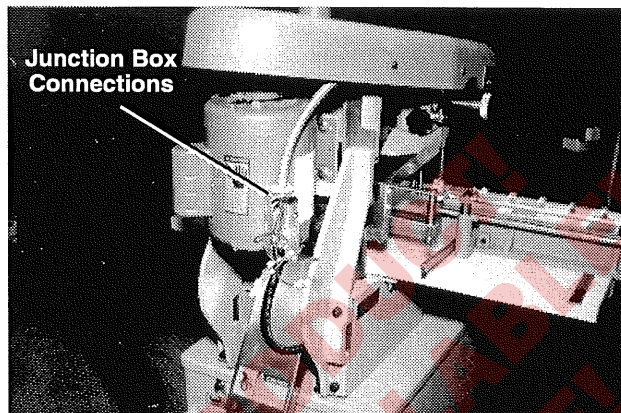

Fig. 4
2. Remove the junction box cover from box mounted on rear left side of motor, fig. 4. Loosen cable clamp from top of junction box and insert table light power cable. Remove wire nut connections from inside junction box. Twist together numbered wires from table light to like numbered wires in the junction box. Replace the wire nuts.